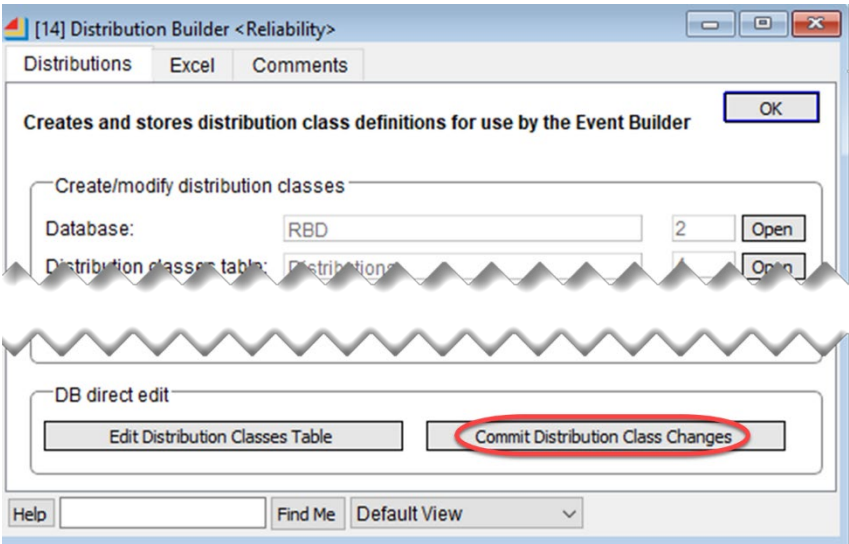

Figure 11-11: Committing distribution class changes
Step 7. Close the tables and make sure you **Commit** the additions/changes, as shown in *Figure 11-11*.